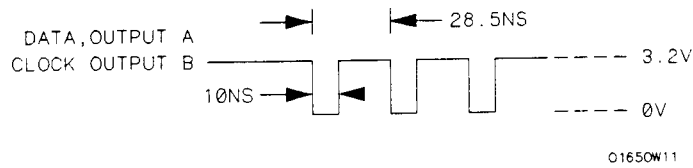

Figure 3-12. Waveform for Data Test 2
2. Adjust the pulse generator for the output in figure 3-12.